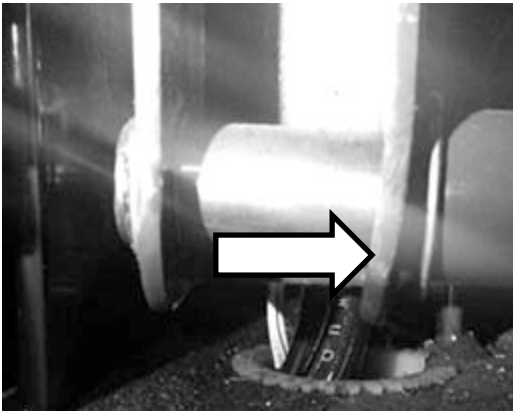

Figure 1A (Bent Knuckle Link Arm)
1. The Knuckle Link Arm is bent. Reference Figure 1A.